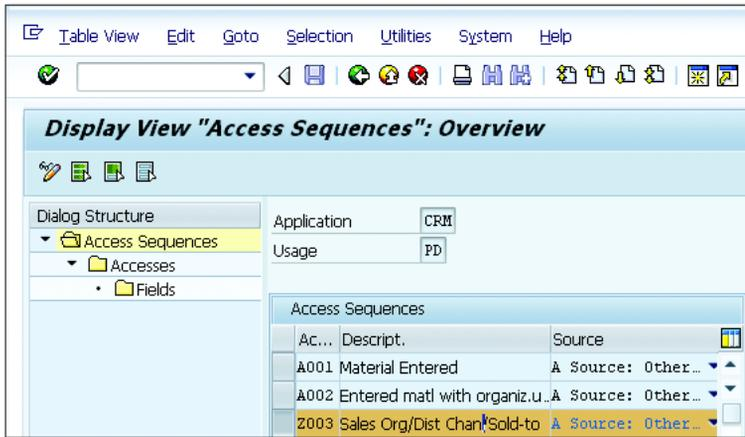

Figure 4.32 SAP CRM Access Sequence Downloaded from SAP ERP
2. Download DNL_CUST_CNDALL to bring all condition tables from SAP ERP to SAP CRM, including the material determination tables from SAP ERP. In this example, let's consider Z003 as one of the access sequences that is present in SAP ERP and loaded to SAP CRM. Figure 4.32 shows that the SAP CRM access sequence is downloaded from SAP ERP.